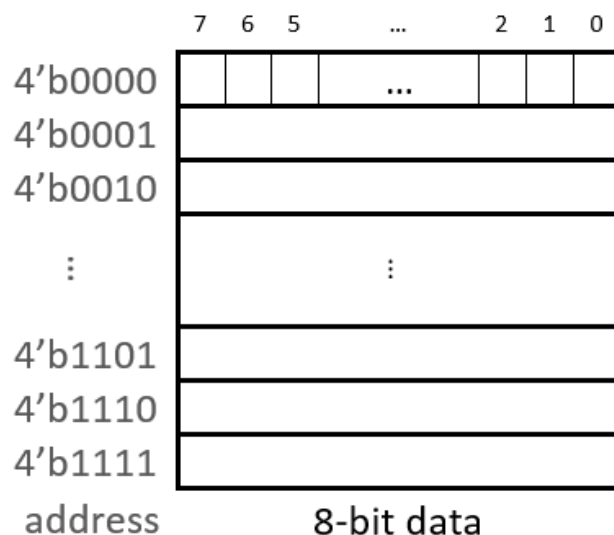

Figure 6. A 16-by-8 memory (with 16 registers and each register has 8 bits)
- 1) Watch **memory\_demo.mp4** and follow the steps to create a 16-by-8 (depth-by-length) memory (Figure 6). Store some arbitrary data into the memory. Generate a memory circuit.